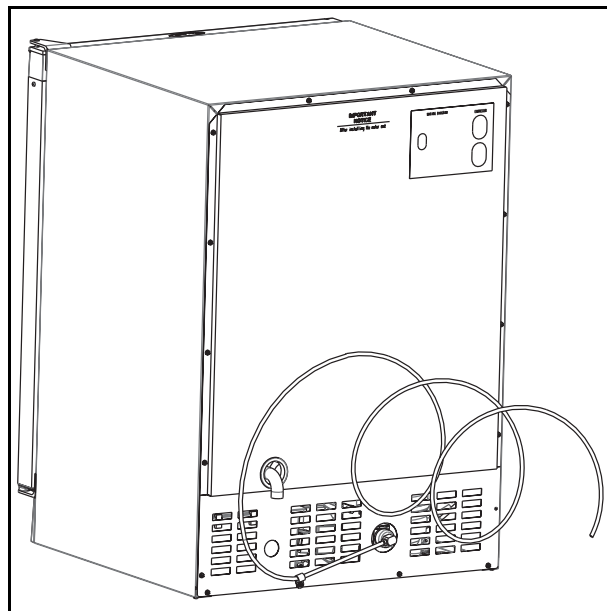

Figure 9
1. Locate the desired cold water supply location. Attach a 1/4" copper line to this location and route the tubing to the appliance. Leave approximately 8' of water line to be coiled behind the appliance as shown (**Figure 9**). This water line should be looped into 2 coils. This will allow the line to flex when moving the appliance in and out of the opening.